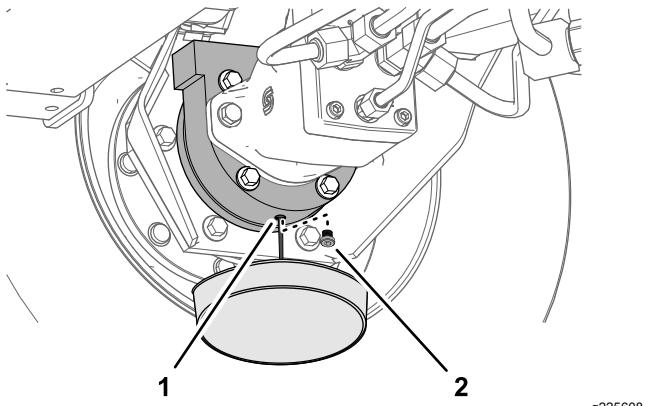

Figure 140
6. Place a drain pan under the brake housing, remove the drain plug, and allow the oil to fully drain (Figure 140).